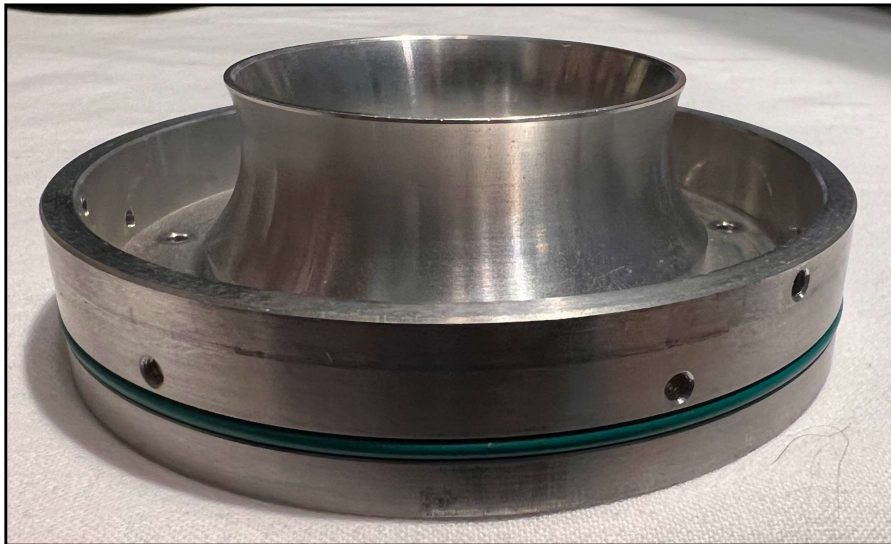

Figure 12: O-ring installed on inlet.
6.4: Install the fluid fittings as shown in Figure 12.